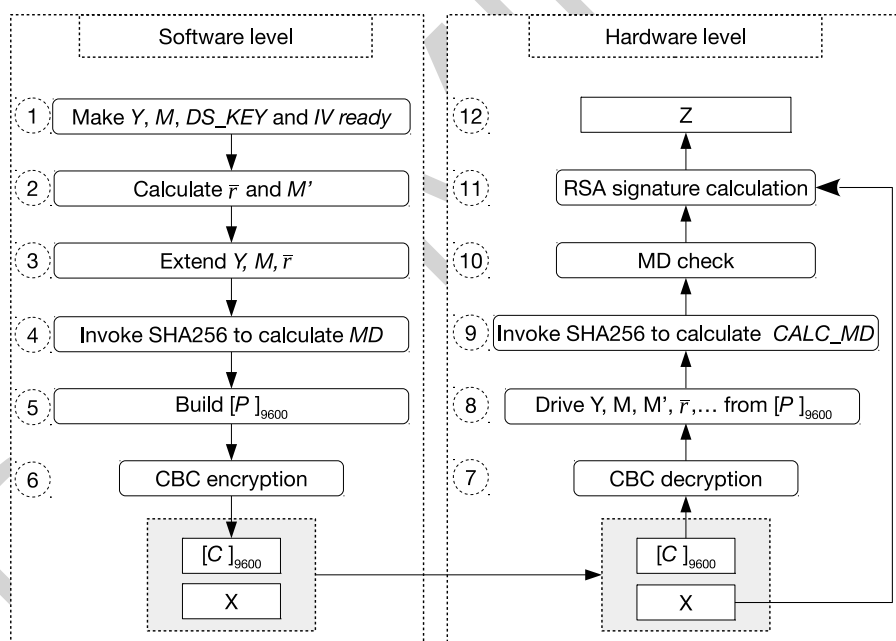

Figure 19-1. Software Preparations and Hardware Working Process
If you want to use the DS module for digital signature, the software and hardware must work closely to implement this successfully, and the software needs to do a series of preparations, as shown in Figure 19-1. The left side lists preparations required by the software before the hardware starts RSA signature calculation, while the right side lists the hardware workflow during the entire calculation procedure.
1. The software preparation (left side in the Figure 19-1) is a one-time operation before any signature is calculated, while the hardware calculation (right side in the Figure 19-1) repeats for every signature calculation.
You need to follow the steps shown in the left part of Figure 19-1 to calculate C . Detailed instructions are as follows:
1. Decryption: Step 7 and 8 in Figure 19-1
The decryption process is the inverse of Step 6 in figure 19-1. The DS module will call AES accelerator to decrypt C in CBC block mode and get the resulted plaintext. The decryption process can be represented by $P = \text{AES-CBC-DEC}(C, DS_KEY, IV)$, where IV (i.e., $[IV]_{128}$) is defined by you. $[DS_KEY]_{256}$ is provided by HMAC module, derived from $HMAC_KEY$ stored in eFuse. $[DS_KEY]_{256}$, as well as $[HMAC_KEY]_{256}$ are not readable by the software.
2. Check: Step 9 and 10 in Figure 19-1
The DS module will perform two checks: MD check and padding check. Padding check is not shown in Figure 19-1, as it happens at the same time with MD check.
3. Calculation: Step 11 and 12 in Figure 19-1